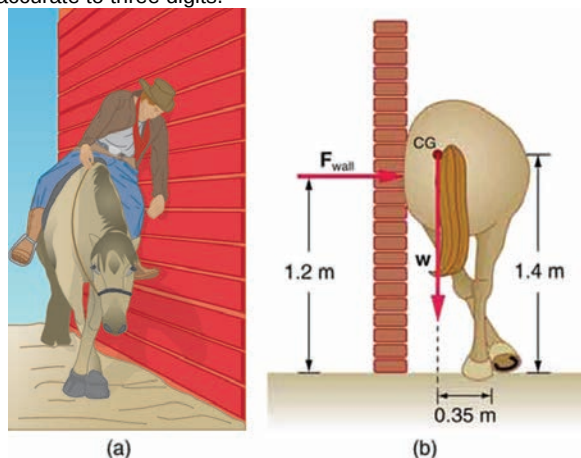

Figure 9.31
6. Suppose a horse leans against a wall as in **Figure 9.31**. Calculate the force exerted on the wall assuming that force is horizontal while using the data in the schematic representation of the situation. Note that the force exerted on the wall is equal in magnitude and opposite in direction to the force exerted on the horse, keeping it in equilibrium. The total mass of the horse and rider is 500 kg. Take the data to be accurate to three digits.
8. (a) Calculate the magnitude and direction of the force on each foot of the horse in **Figure 9.31** (two are on the ground), assuming the center of mass of the horse is midway between the feet. The total mass of the horse and rider is 500 kg. (b) What is the minimum coefficient of friction between the hooves and ground? Note that the force exerted by the wall is horizontal.